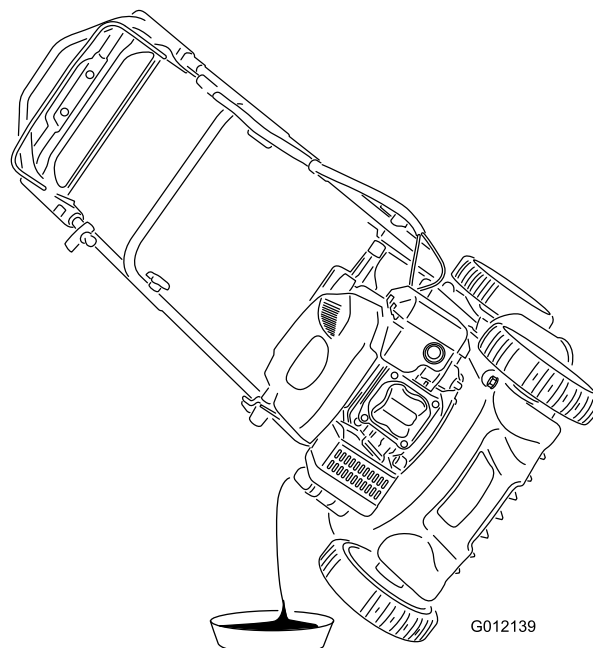

Figure 22
4. Tip the machine onto its side, with the dipstick down, to drain the used oil out through the oil-fill tube into an oil drain pan (Figure 22).